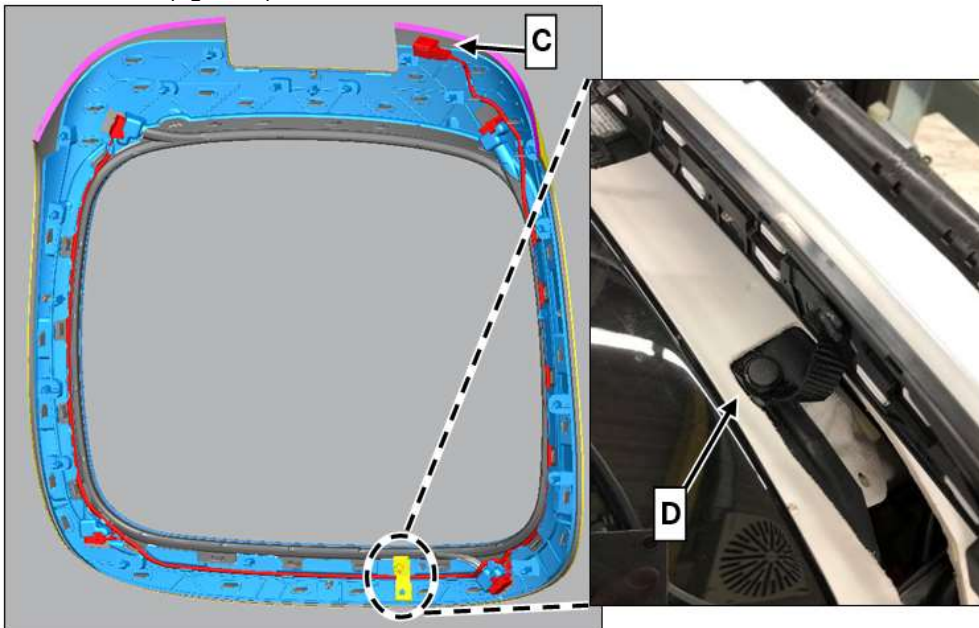

Figure 3
4. Disconnect electrical connectors (C), pry out lower securing clip (D), and remove outer backrest mounting strip from front seat (figure 3).